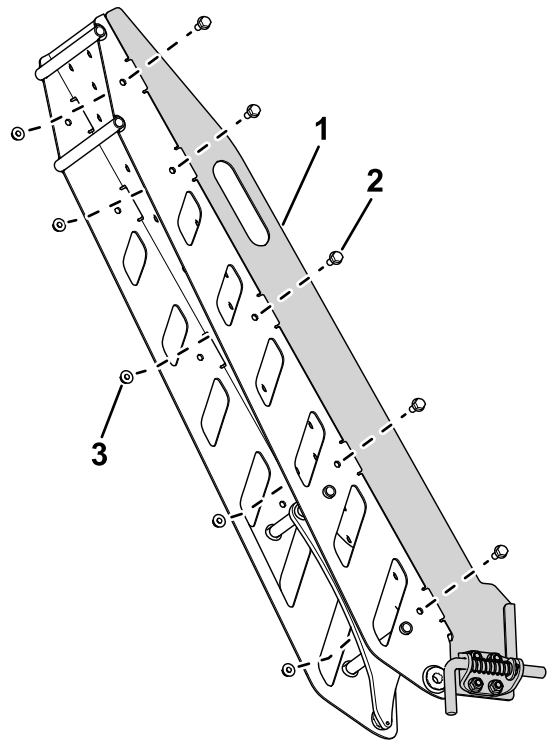

**Figure 9**
1. Use 4 torx-head screws and 4 nuts (5/16 inch) to secure the latch-pin bracket to the guide plate on the ramp assembly (Figure 9).